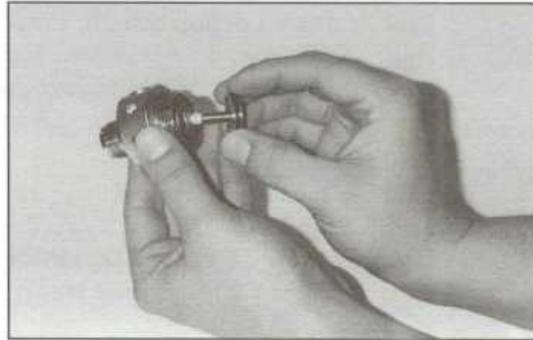

FIG 5-8
6. Carefully lower the HP piston (bullet first) into the main body (13) until the bullet and stem have passed through the piston stem o-ring (17). Refer to figure 5-8.